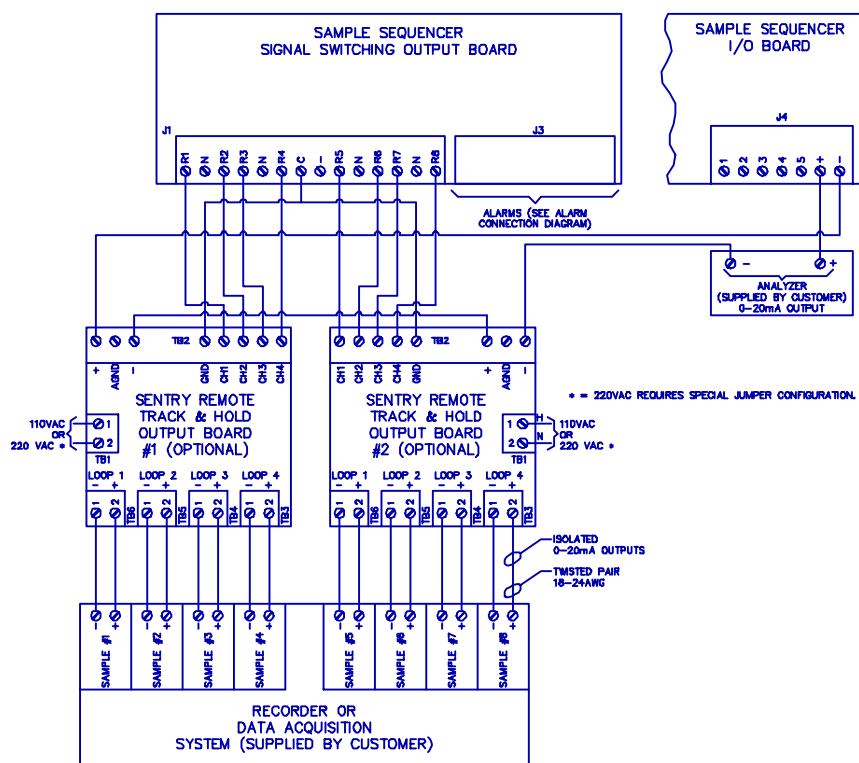

FIGURE 22 - Recorder Connections Using Remote Track & Hold Output Board(s) & Signal Switching Output Board
**Remote Electronic Track & Hold Boards (7-00839A)** are used in conjunction with signal switching output boards to output individually isolated 0-20 mA or 4-20 mA signals to recorders or other data acquisition systems. The advantage over using the plug-in type is that alarm contacts are now available from the signal switching output board. One may use as many remote electronic track & hold boards as desired. Figure 22 shows how to connect the board.
#### **Wiring to the Remote Electronic track & hold Board - Figure 22**